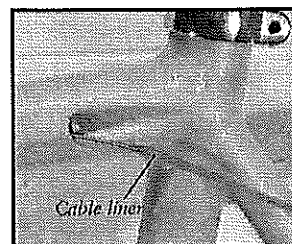

Fig. 27
10. Remove the cable liner from the back of the tube (Fig. 27). Again, it may take some coaxing to get the liner to slide through the ferrules.